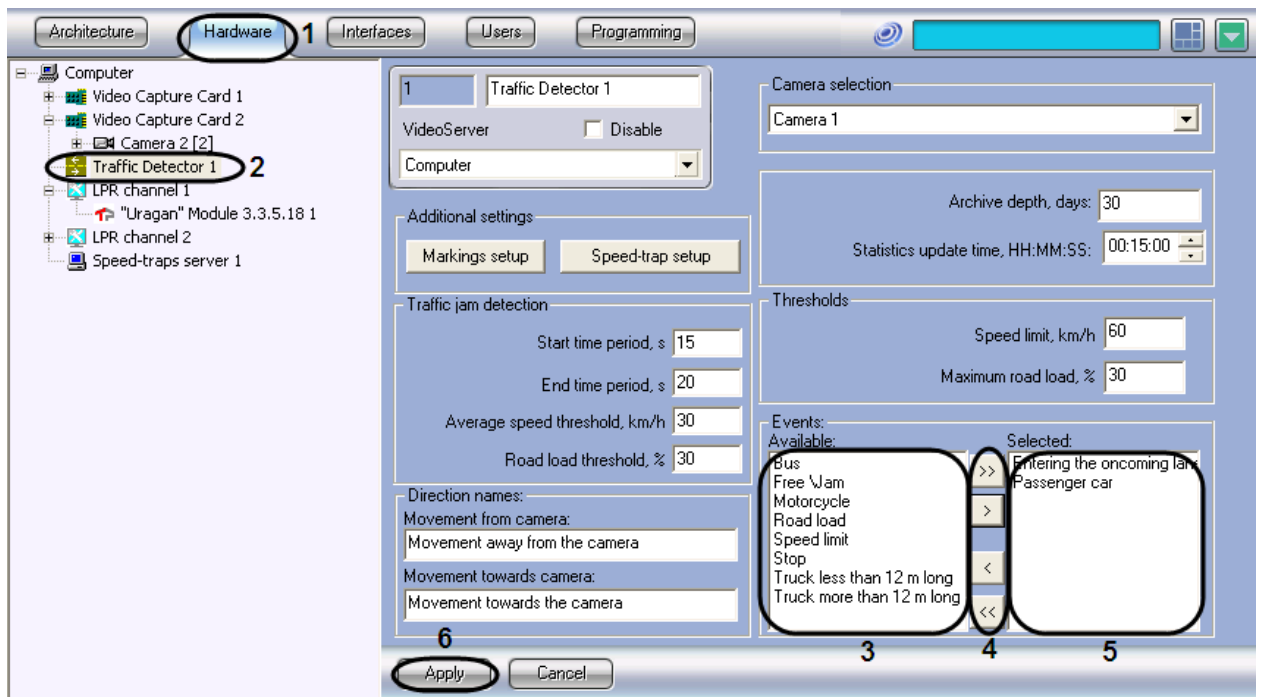

Fig. 7.4—21 Selecting the events to be generated from the list of all available events
2. In the object tree on the left side of the Hardware tab, select the Traffic Detector object representing the Traffic Detector module to be set up. The settings panel of the selected object will open on the right side of the window (see Fig. 7.4—21).